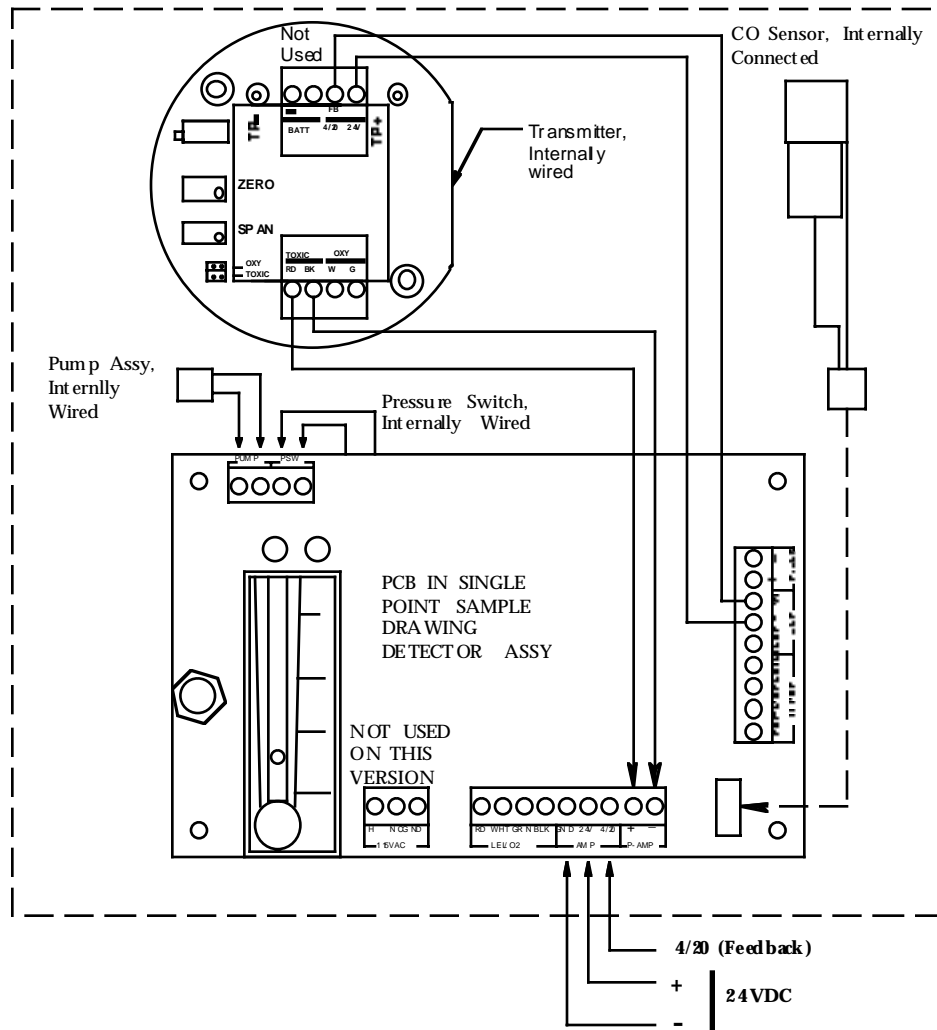

Figure 4: Wiring the Sample-Draw Carbon Monoxide Gas Detector
3. Connect the cable to the sample draw detector’s interconnect terminal strip as shown in Figure 4.